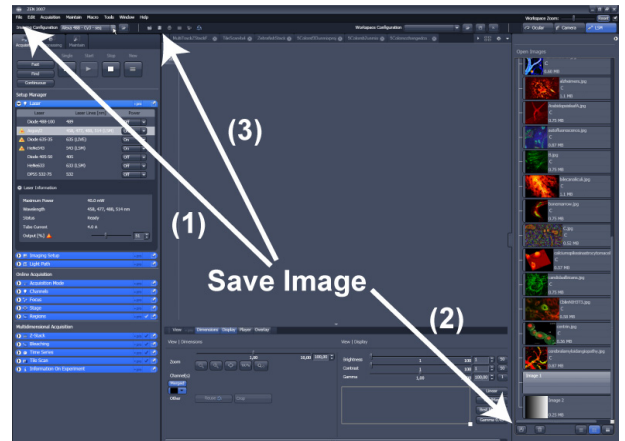

Fig. 25 Save Image buttons in ZEN
- To save your acquired or processed images, click on the **Save** or **Save As** button in **File Menu** (Fig. 25/1), click on the  button at the bottom of the **File Handling Area** (Fig. 25/2) or click the  button in the **Main Toolbar** (Fig. 25/3).